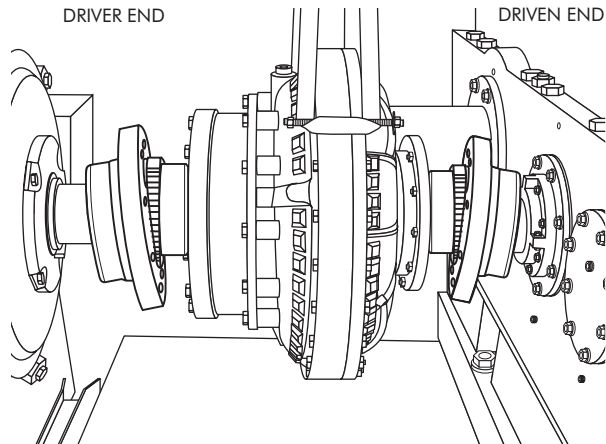

Figure 5
- E. Position fluid coupling assembly between Type G hubs as close to the centerline as possible, Figure 5.